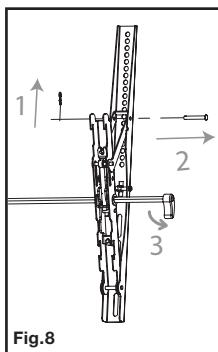
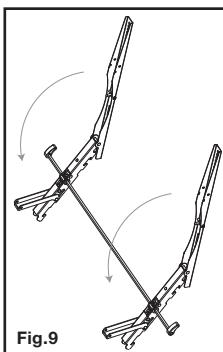

Fig.8
Fig.9
5. Remove the clips located towards the top of each arm and take out the pins (see Fig.8). Then push down and hold both tilt adjustment rod knobs simultaneously. Lift both sides of the rod together and open both arms completely as shown in Fig.9.